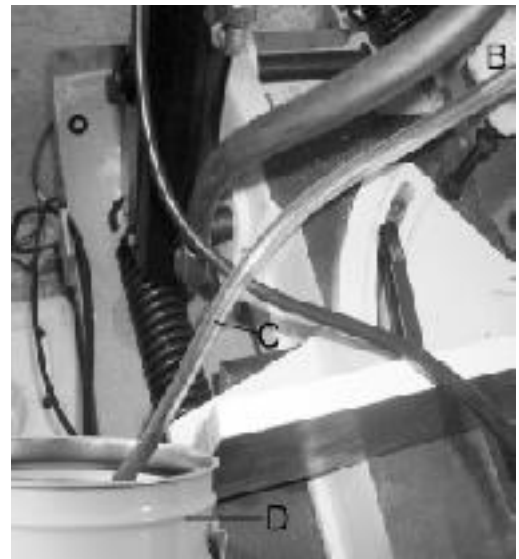

Fig.23
2. Remove plug (A) Fig.22 from the top of the hydraulic system and replace with a suitable hose fitting (B) Fig.23. connect a clear hose (C) to the fitting, as shown.
3. Put approximately one quart of Mobil-DTE (light) oil, available in one-quart of cans into a container (D) Fig.23 place hose (C) in the container (D) making sure end of hose is submerged in the oil, raise and lower saw arm until the bubbles disappear from inside the clear hose (C).
4. Remove hose fitting (B) Fig.23 and replace plug (A) Fig.22.